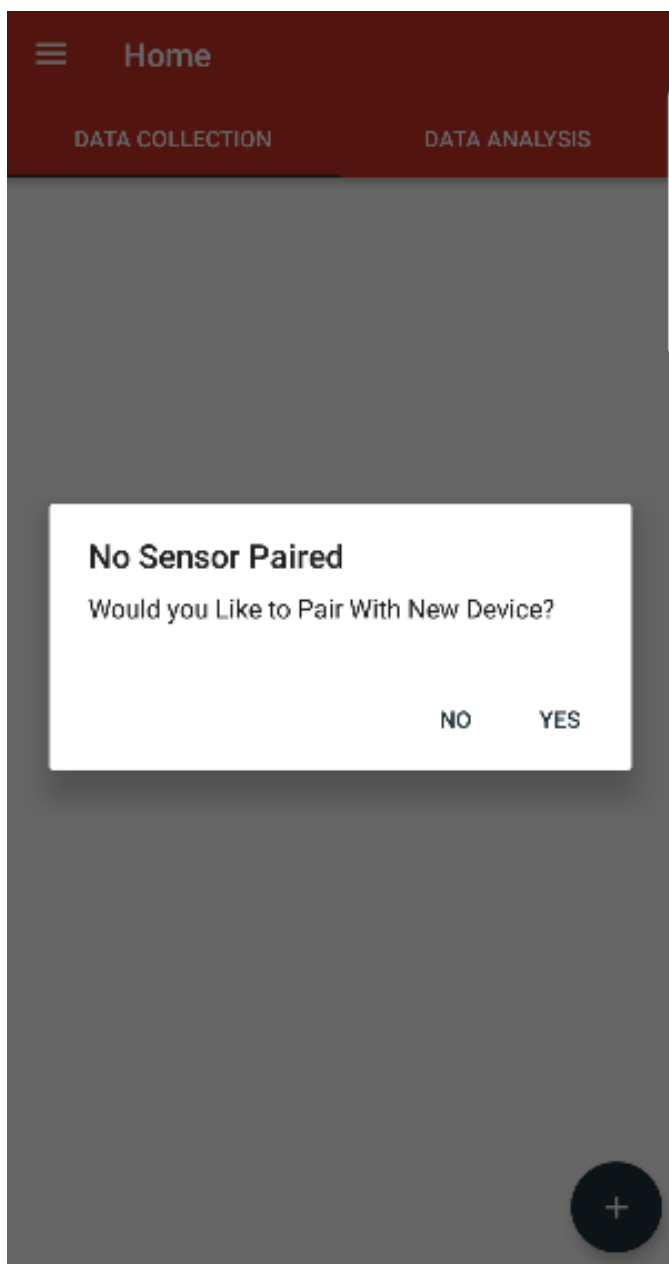

Figure 7: Pairing device
- The screen in Figure 7 will show up on initial access to the app